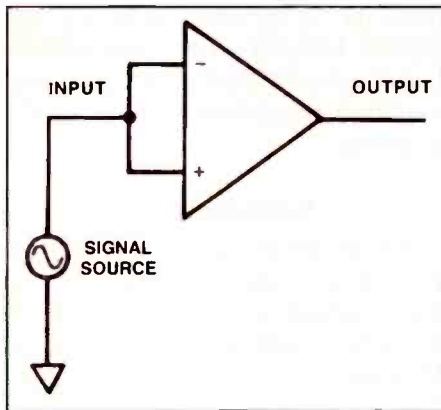

Figure 1.
2. What is the name for the input to the op amp in Figure 1?